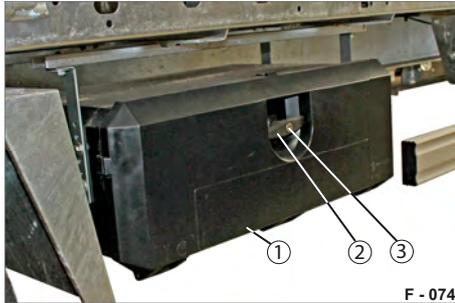
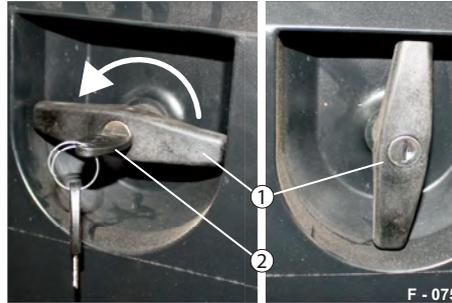

Fig. 100 Toolbox overview
Fig. 101 Handle closed/opened
- ▶ Unlock the lid (Fig. 100/1) with the key (Fig. 101/2).
- ▶ Turn the handle (Fig. 101/1) anticlockwise.